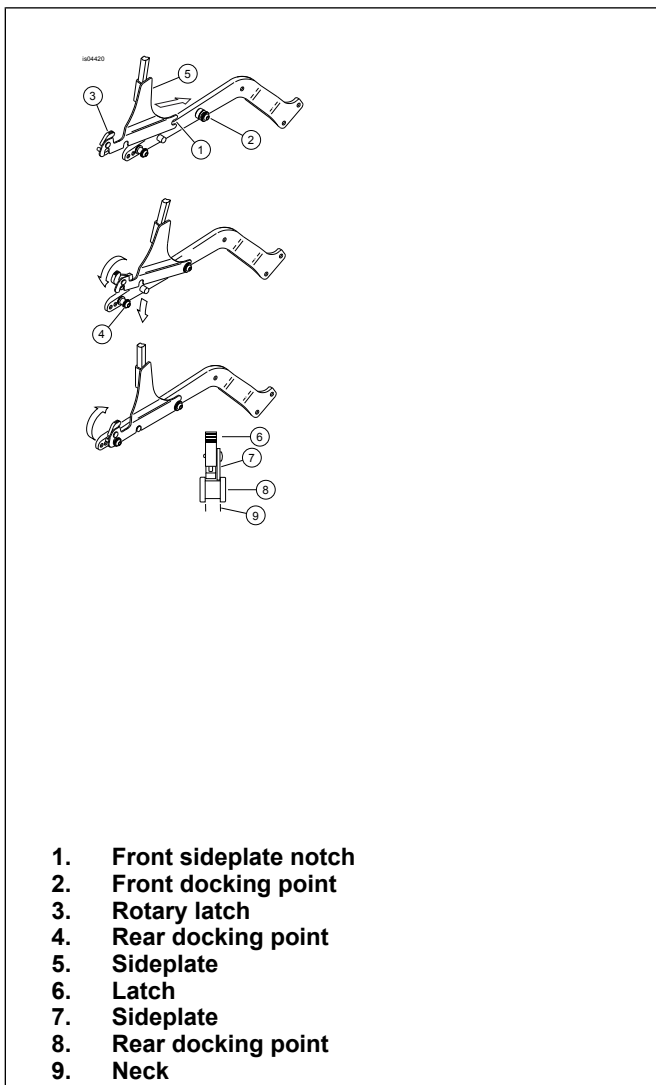
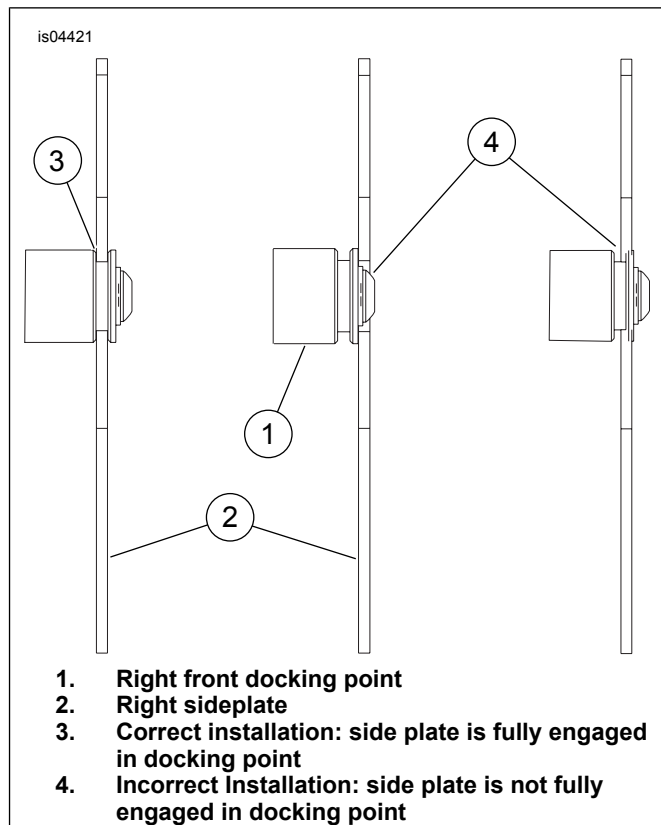

Figure 2. Attaching Sideplates Sissy Bar Assembly
Figure 3. Correct/Incorrect Docking Point Examples
Check alignment as shown in Figure 3. Properly align the docking points and sideplates to prevent damaging the rear docking points.
- See Figure 2. While standing behind the motorcycle, place the front sideplate notches (1) into the front docking points (2) as shown in the top side plate view. See Figure 3 for views of correct and incorrect sideplate engagement.
- See Figure 2. Pull the rotary latches (3) back into their rearmost position as shown in center side plate view. Position the rotary latches over the rear docking points (4), making certain the latches and sideplates fit into the neck of the rear docking points as shown in the bottom latch view. This may require some gentle squeezing or spreading of the sideplates.
4. Push downward on the sideplates, and close the rotary latches by pressing the latch lever as far forward as it will go as shown in the lower sideplate view. You will hear a click when the latch is in place. If the latch does not easily close, do not force it. Recheck alignment as described in Step 2 and Figure 3.